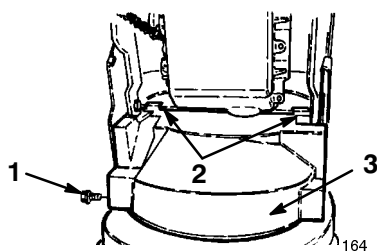

Figure 4
11. Install the lower belt cover on the underside of the auger/impeller housing and the engine frame with two 1/2-inch (1 mm) flange head cap screws (Fig. 4).